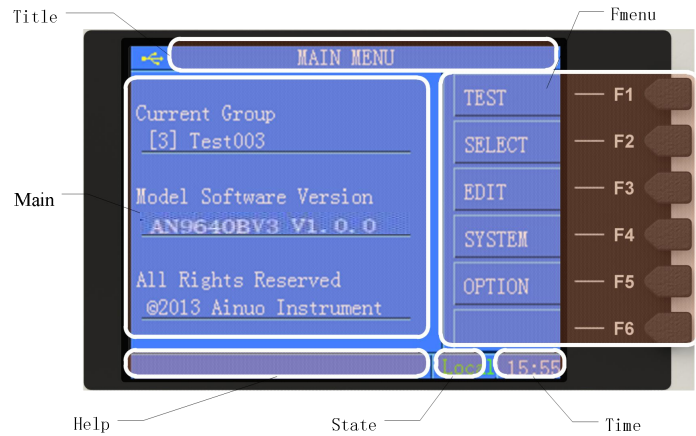

Figure 2-3-2 LCDs
(3) LCD screen: show settings and measurement information, as shown in Figure 2-3-2, including 6 districts.